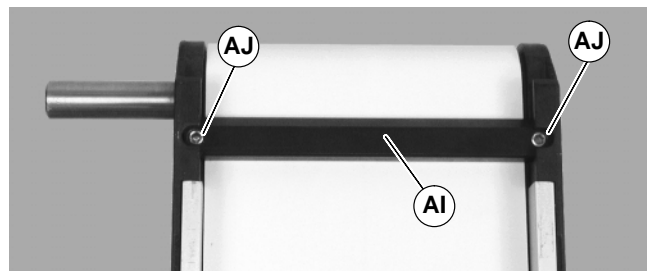

Figure 36
13. If equipped, re-install bottom wipers (AI of Figure 36). Install wiper (AI) then install screws (AJ).